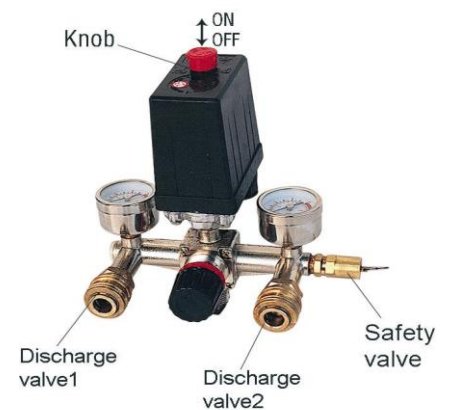

Fig.2
5. Pull the knob on the pressure switch cover to the ON position (Fig.2) and let the compressor run 10 minutes with no load to ensure lubricating the moving parts before regular service.